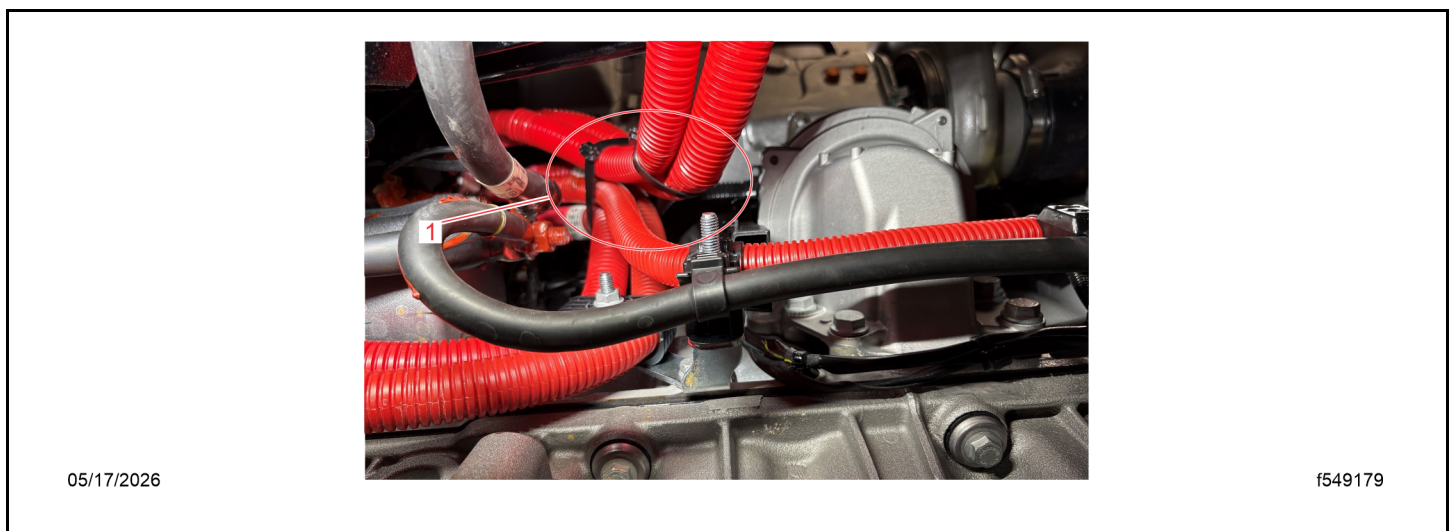

Fig 95, Securing the Cables
31. Route the starter and jump-start auxiliary BCA cables next to the other heavy positive cable(s) from the starter to the lower frame rail support bracket. See Fig. Fig. 95.